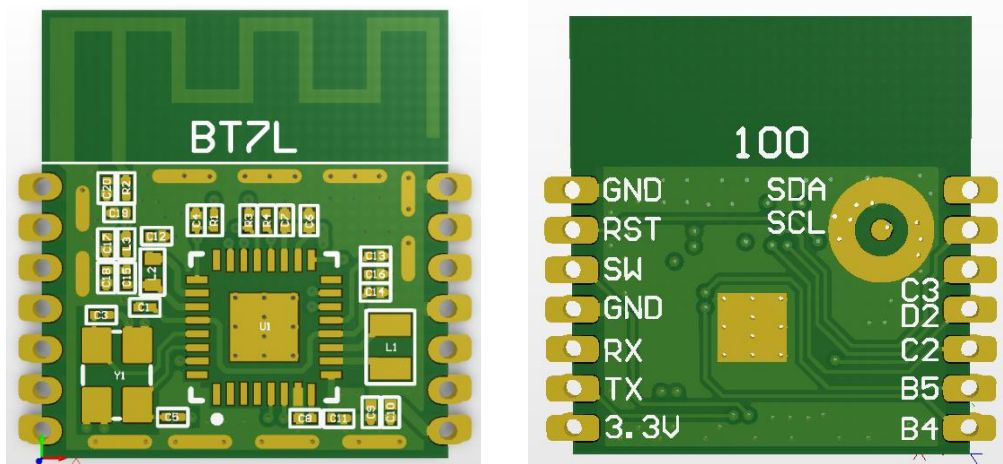

Figure 2-1 BT7L pins
The BT7L dimensions are 15mm±0.35 (W)×16.5mm±0.35 (L)×2.85mm(H). The PCB thickness is 0.8±0.1 mm. Figure 2-1 shows the BT7L pins.